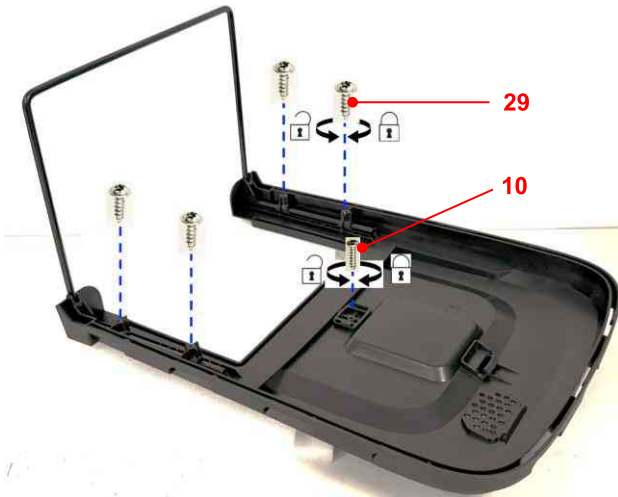

Fig. 25
3. Secure the support frame to the grass catcher lid with the 4 self-tapping screws ST4.8*16-C (29) and the carry handle with the self-tapping screw ST4.2*16-F (10) (Fig. 25).